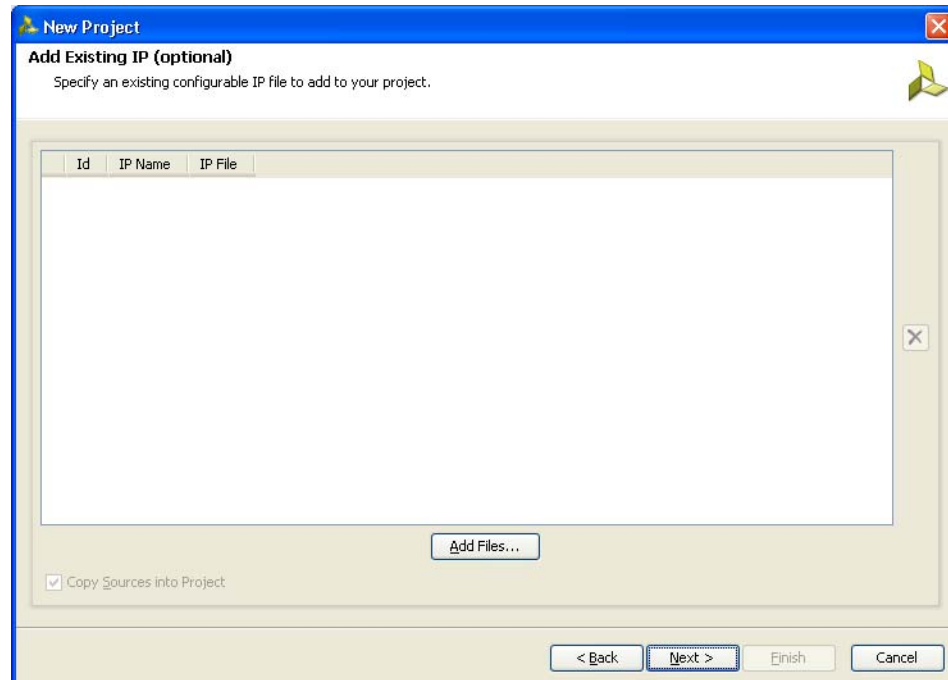

Figure 1-6: Add Existing IP (Optional)
6. Click **Next** to open the **Add Existing IP (Optional)** page (Figure 1-6). If the IP is already created, the XCI file generated by the IP can be added to the project and the previous created IP files are automatically added to the project. If the IP was not created earlier, proceed to the next page.